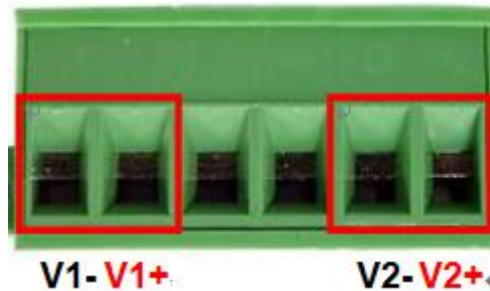

Figure 2.7
1. Insert the positive and negative wires into the PWR1 (V1+, V1-) and PWR2 (V2+, V2-) contacts on the terminal block connector as shown below in *Figure 2.7*.